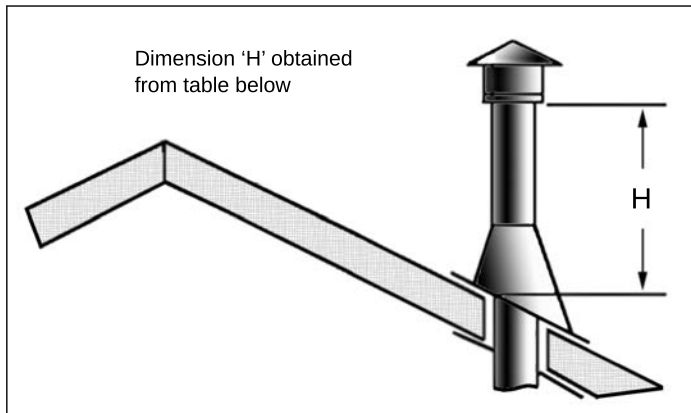

Figure 56: Height of Vertical Termination; Reference Table 8.
- STEP 8.** Continue to add pipe sections until the height of the vent cap meets the minimum code requirements. Refer to Figure 56 and Table 8. Note that for steep roof pitches, the vent height must be increased. In high wind conditions, nearby trees, adjoining roof lines, steep pitched roofs, and other similar factors can result in poor draft, or down drafting. In these cases, increasing the vent height may solve the problem.
Table 8: Minimum 'H' for Figure 56.